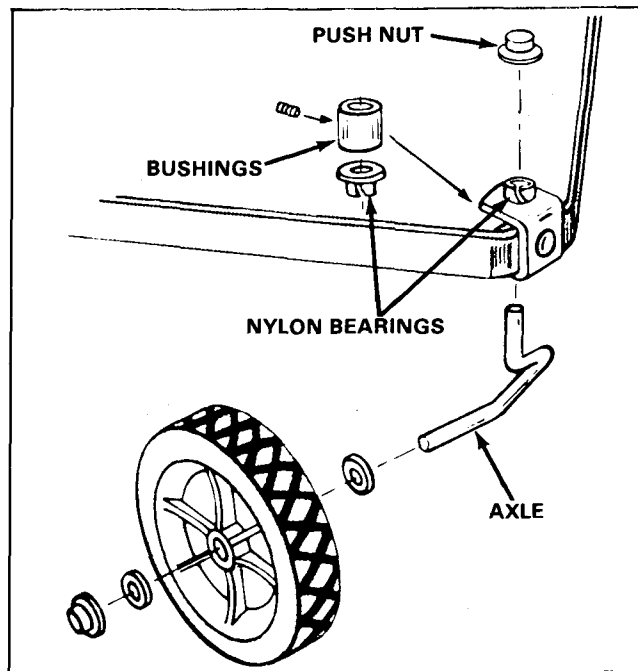

Figure 82
11. See Figure 82. Assemble the gauge wheel and axle to the wheel mount bracket as follows: slide one 1/2" ID flat washer on to the short end of axle, followed by the gauge wheel, with hub facing out, and another 1/2" flat washer, and then "tap" the push nut on the shaft with a hammer.